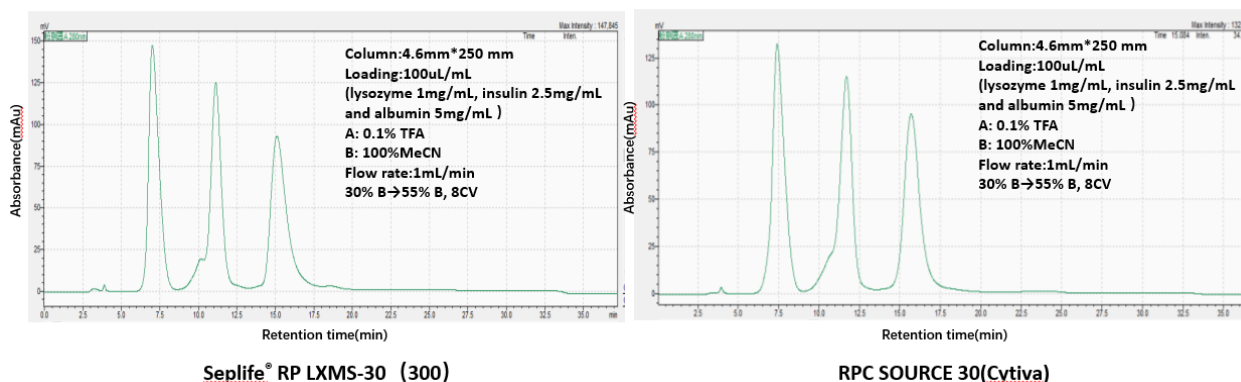

Figure 1. Elution curves of Seplife® RP LXMS-30 and Cytiva RPC SOURCE 30 for albumin, lysozyme, insulin
Seplife® RP LXMS-30(300) has similar chromatographic performance with RPC SOURCE 30. Figure 1 shows the elution curves of albumin, lysozyme, insulin using Seplife® RP LXMS-30(300) and Cytiva RPC SOURCE 30 using the same column packing and chromatographic conditions